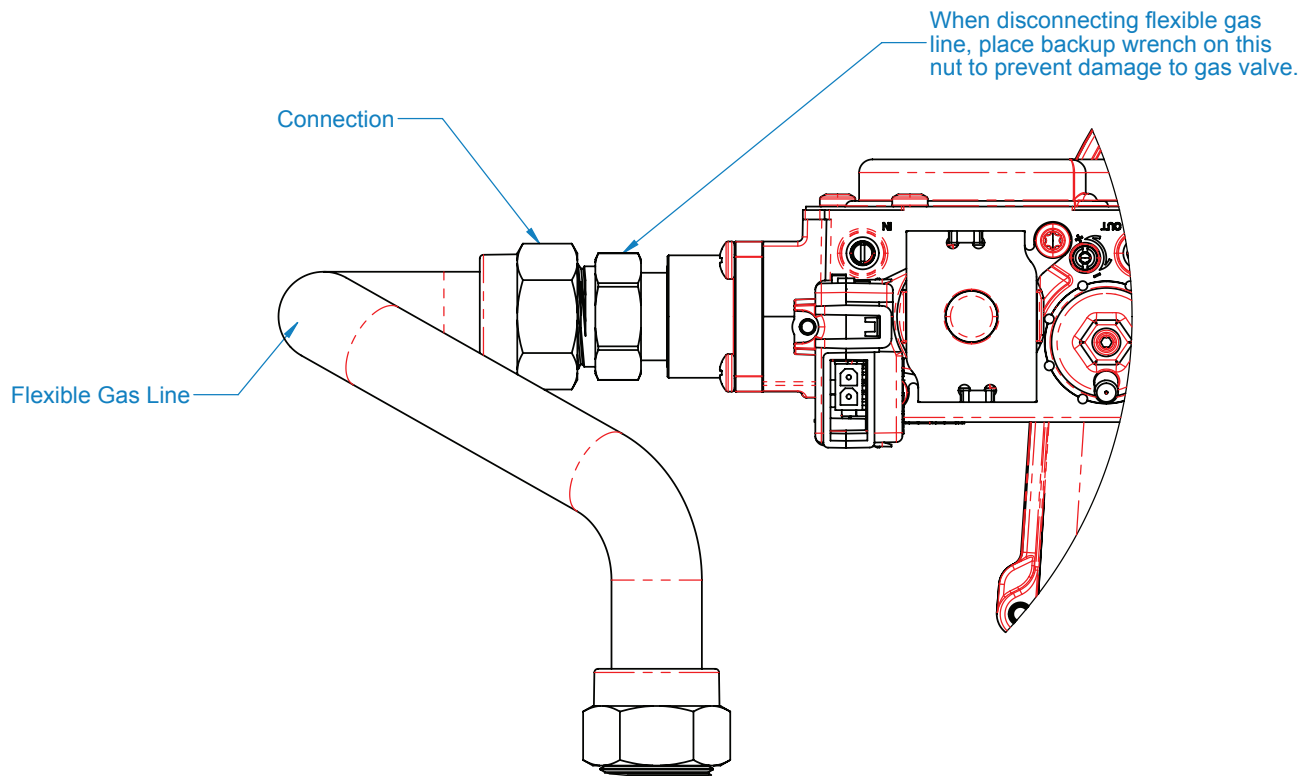

Figure 13.1: Disconnecting Flexible Gas Line
- e. **Disconnect the flexible gas line** at the gas valve flare connection (Figure 13.1).
**Fire Hazard. Explosion Hazard. Always use a back-up wrench on the flare connection when making or breaking this connection as shown in Figure 13.1. Failure to do so can cause adjacent threaded connections to loosen or damage to the gas valve. Check all internal gas piping for leaks any time it is disconnected or disturbed during servicing.**